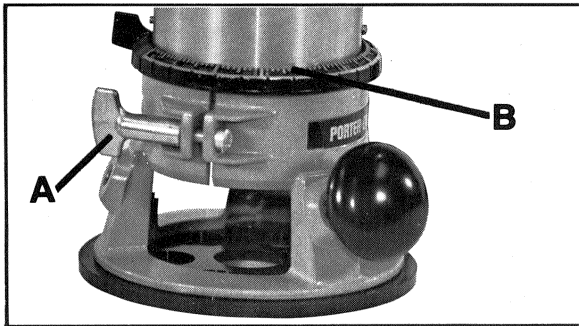

Fig. 2
- a) Loosen Clamp Screw (A) Fig. 2.
- b) While holding base, turn motor unit COUNTERCLOCKWISE until lower Pin (B) in motor housing is disengaged from groove in base.